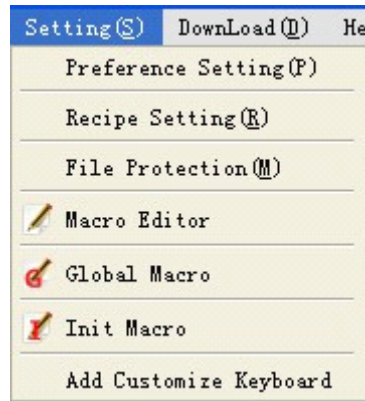

Figure 2-33: “Setting” menu
“Setting” menu consists of the following commands: Preference Setting (P), Recipe Setting (R), File Protection (M), Macro Editor, Converter, Global Macro and Initial Macro. See Figure 2-33.